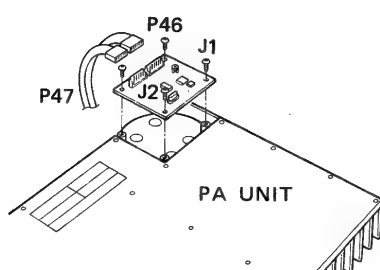

Fig. 2
- 4) Connect P46 (6 pins) from the MAIN UNIT to J1 on the UT-34. (Fig. 2)
- 5) Connect P47 (5 pins) from the LOGIC and FRONT UNITS to J2 on the UT-34. (Fig. 2)